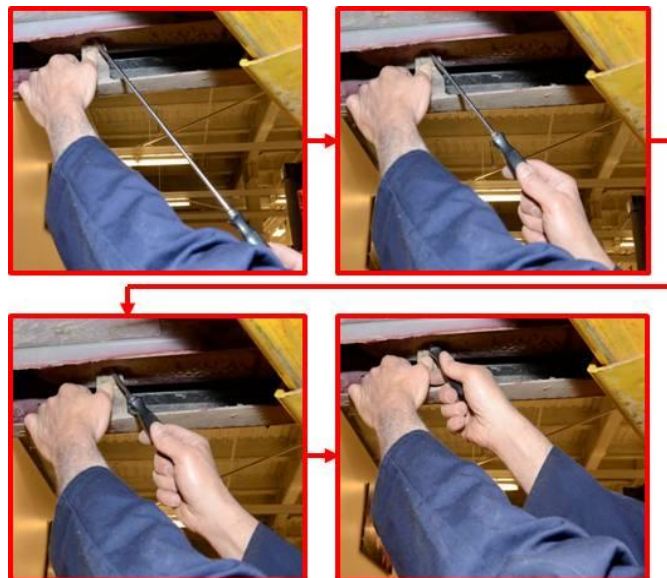

Fig. 5 Rod Orientation
5. Insert a rod or screwdriver shown in (Fig. 5) that is 6mm (1/4") in diameter and approximately 406.4mm (16") long at a 30 degree angle to puncture the cowl foam.